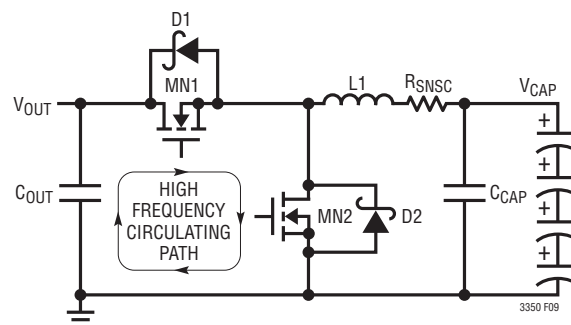

Figure 9. High Speed Switching Path
1. Keep M1, M2, D1, D2 and C_{OUT} close together. The high di/dt loop formed by the MOSFETs, Schottky diodes and the V_{OUT} capacitance, shown in Figure 9, should have short, wide traces to minimize high frequency noise and voltage stress from inductive ringing. Surface mount components are preferred to reduce parasitic inductances from component leads. Connect the drain of the top MOSFET and cathode of the top diode directly to the positive terminal of C_{OUT} . Connect the source of the bottom MOSFET and anode of the bottom diode directly to the negative terminal of C_{OUT} . This capacitor provides the AC current to the MOSFETs.